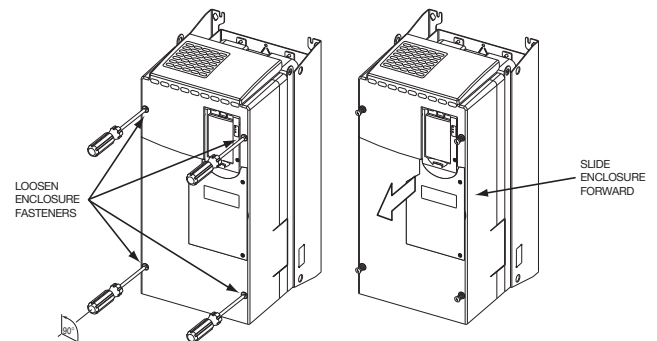

Fig. 18 — Removing Enclosure
3. Remove the enclosure. See Fig. 18.
7. Install the enclosure. See Fig. 18.
6. Install the enclosure. See Fig. 18.
Install the enclosure. See Fig. 18.